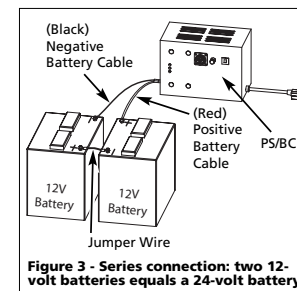

Figure 3 - Series connection: two 12-volt batteries equals a 24-volt battery
4. Place batteries side by side in battery case (see Figure 3).
7. Attach jumper wire as shown in Figure 3 to achieve 24 volts.
8. Connect PS/BC battery cables to batteries as shown in Figure 3.
10. Reinstall pump fuse. The green LED will light. If it does not light, make sure polarity of batteries and PS/BC cables are identical to Figure 3. The voltage at the PS/BC cables must be at least 18 volts or the PS/BC will not operate. Once the green LED is on, it will stay on unless the combined batteries' voltage falls below 7 volts.